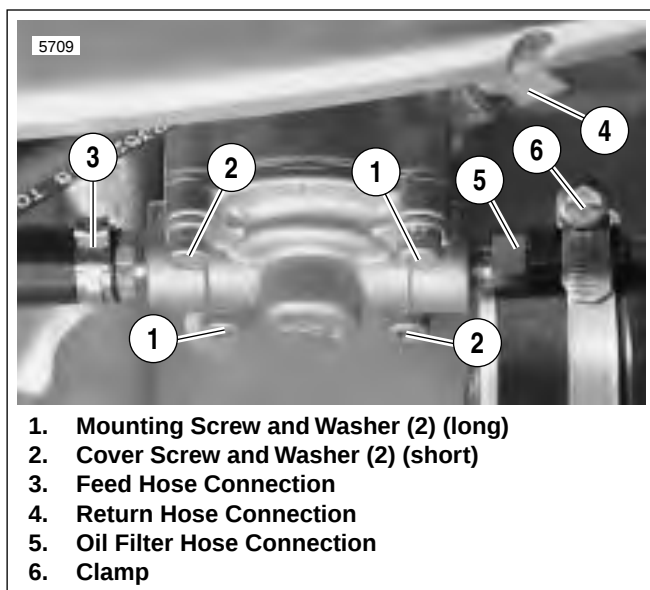

Figure 3-51. Oil Pump Hardware
2. See Figure 3-51. Disconnect feed hose (3).
3. Remove clamp (6) from filter hose. Detach oil filter hose connection (5).
8. See Figure 3-51. Attach return hose connection (4).
9. Secure pump to crankcase with mounting screws (1) and washers. Tighten to 125-150 **in-lbs** (14.1-16.9 Nm).
10. Attach feed hose (3) and oil filter hose connection (5).
11. Attach clamp (6) and canister to hose.